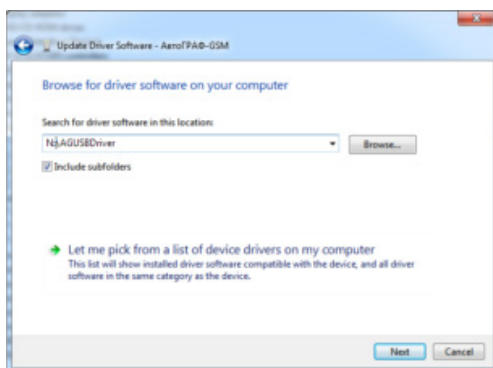

Fig.77. Browse for the driver folder.
4. Launch the driver update wizard and select «Browse my computer for driver software» to search for drivers manually. Then browse to the location where the drivers are saved (Fig.77).